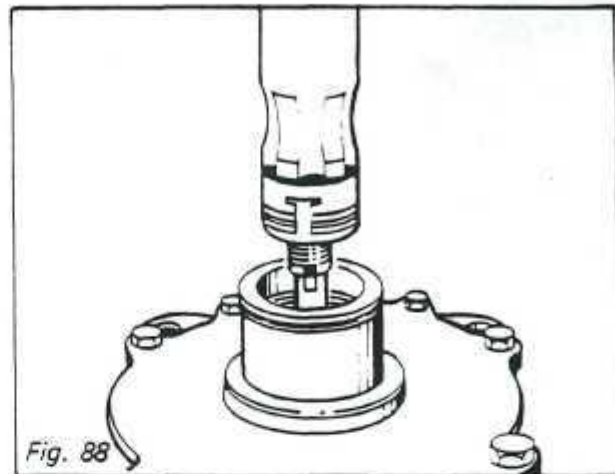

Fig. 88
Step 8 — Insert the Seal Remover and Installer Tool against the seal assembly. Press down against the seal spring and twist the tool until feeling it engage in the slots of the seal cage. Lift out seal assembly. Fig. 88